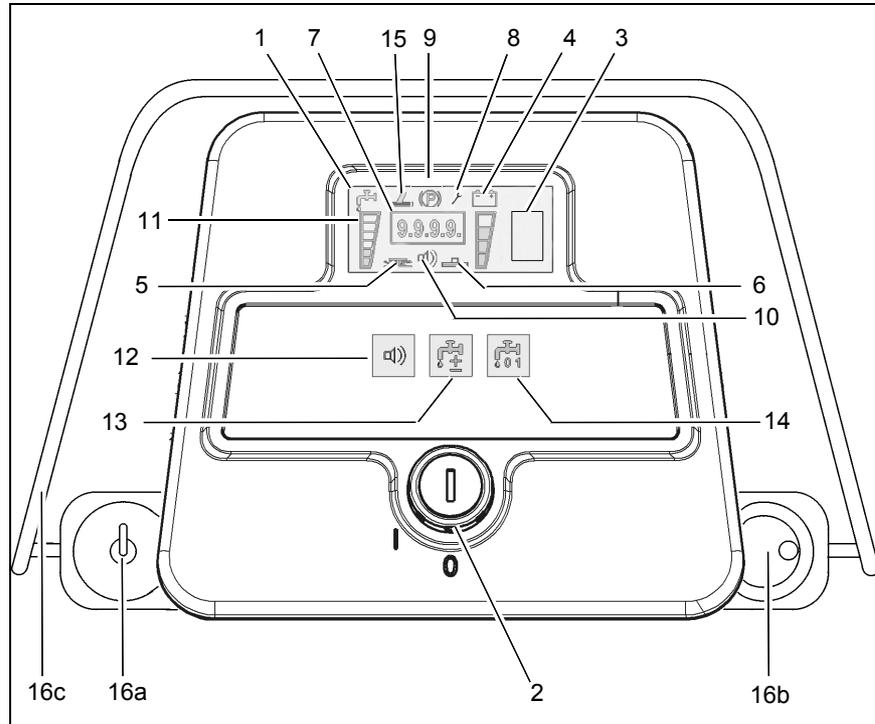

Fig.4
3. Switch on solution supply by means of tip-switch (Fig.4/14).
4. Adjust solution amount by means of tip-switch (Fig.4/13) to lower brush head. Solution supply switches on automatically.
5. Use the speed control knob (Fig.4/16b) to adjust the work speed. Use the direction switch (Fig.4/16a) to select forward or reverse. Pull the bail handle (Fig.4/16c) to start moving.
Display (Fig. 4/1)
Battery charge indication (Fig. 4/3)
LDS indicator (Fig. 4/4)
Symbol brush drive (Fig. 4/5)
Symbol suction turbine drive (Fig. 4/6)
Hourmeter (Fig. 4/7)
Service indicator (Fig. 4/8)
Parking brake symbol (Fig. 4/9)
Silence Kit tip symbol (optional) (Fig. 4/10)
Solution dosage symbol (Fig. 4/11)
Silence Kit tip-switch (optional) (Fig. 4/12)
Solution dosage tip-switch (Fig. 4/13)
Solution supply ON/OFF tip-switch (Fig. 4/14)
Scrubbing tool symbol (optional) (Fig. 4/15)
Drive direction control with speed control knob/bail handle (Fig. 4/16)